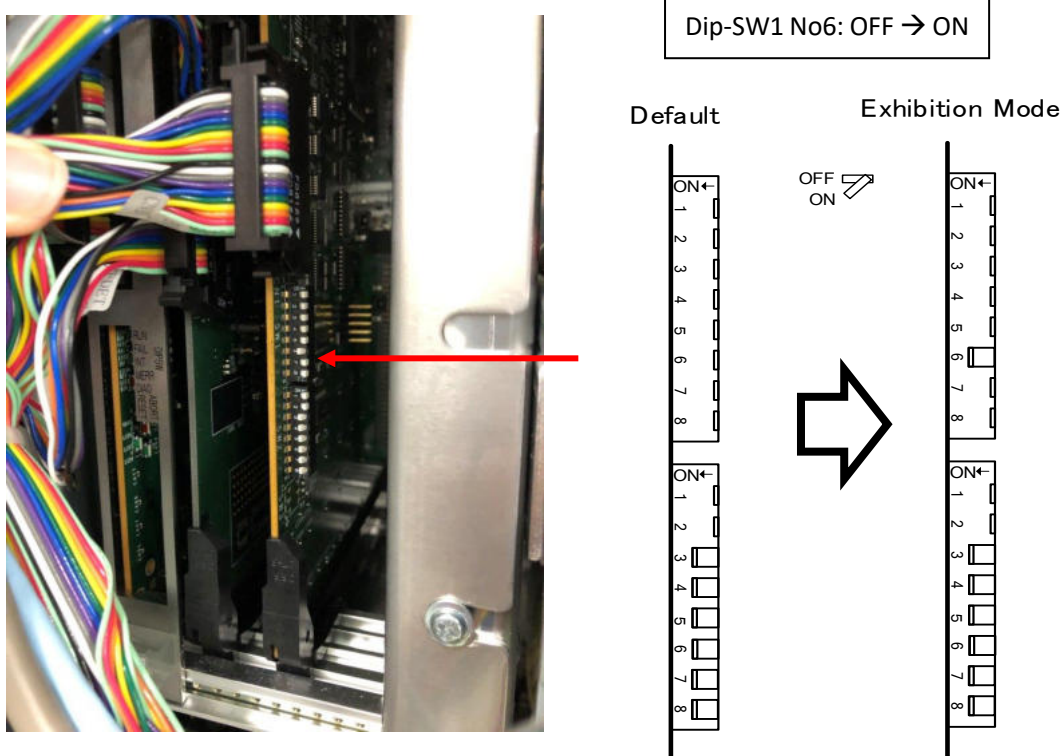

Figure 1 Dip-SW setting for SSU
- (1) Change the Dip-SW1 (No.6) to ON (Figure 1) of the EVSC board.